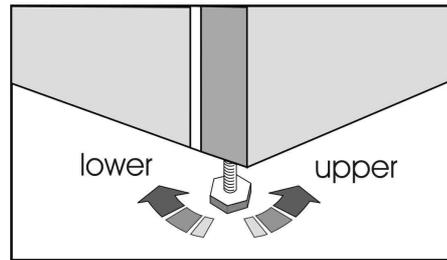

Fig 4
4. The appliance should be positioned on a smooth surface. The two front feet can be adjusted as required. To ensure that your appliance is standing upright adjust the two front feet by turning clockwise or anti-clockwise, until firm contact is secured with the floor. Correct adjustment of feet prevents excessive vibration and noise (**Fig 4**).